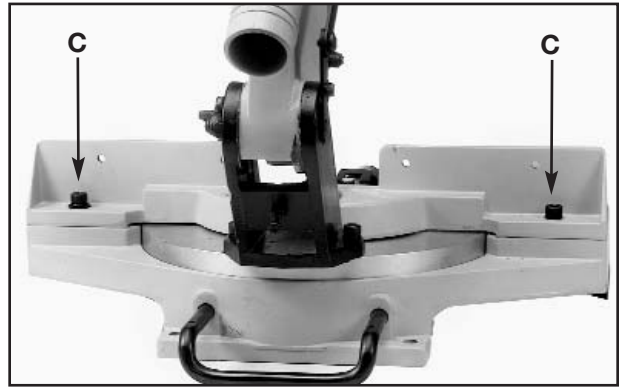

Fig. 20
2. If an adjustment is necessary, loosen the two screws (C) Fig. 20, and adjust fence 90 degrees to the blade.
3. Tighten the two screws (C).